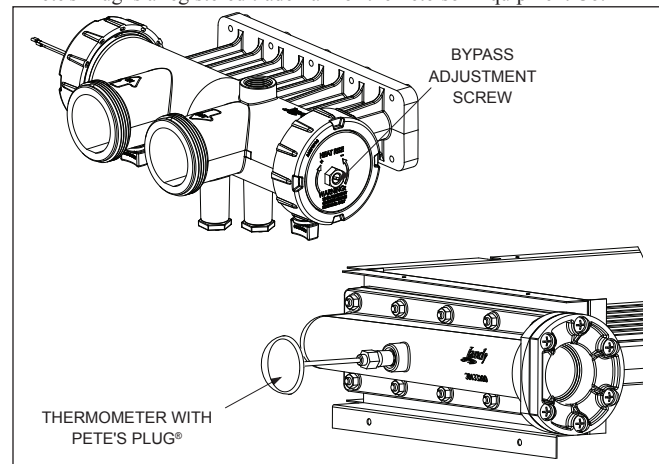

Figure 23. Temperature Rise Measurement
Before checking the temperature rise, make sure that the pool filter is clean and that gas supply and manifold pressures are correct. If necessary, clean all components of the filter system. Temperature rise is measured in the return header of the Legacy. To measure the temperature rise, turn off the filter pump and remove the plastic plug protruding through the cabinet on the return header side of the heater. See Figure 23. With the plug removed, install the special thread adapter and Pete's Plug® fitting and insert a pocket thermometer. A temperature rise measurement kit is available through your Jandy distributor. See Section 11 of this manual for the correct kit number.
6. Locate the bypass adjustment screw on the right-hand side of the header (see Figure 23). Loosen the nut so that the screw can be adjusted. A slight water leak past the nut may be expected. Turn the screw counterclockwise to decrease the temperature rise, and clockwise to increase the temperature rise as needed to achieve the ranges in Table 6. After the adjustment, tighten the nut so that no leaks occur.